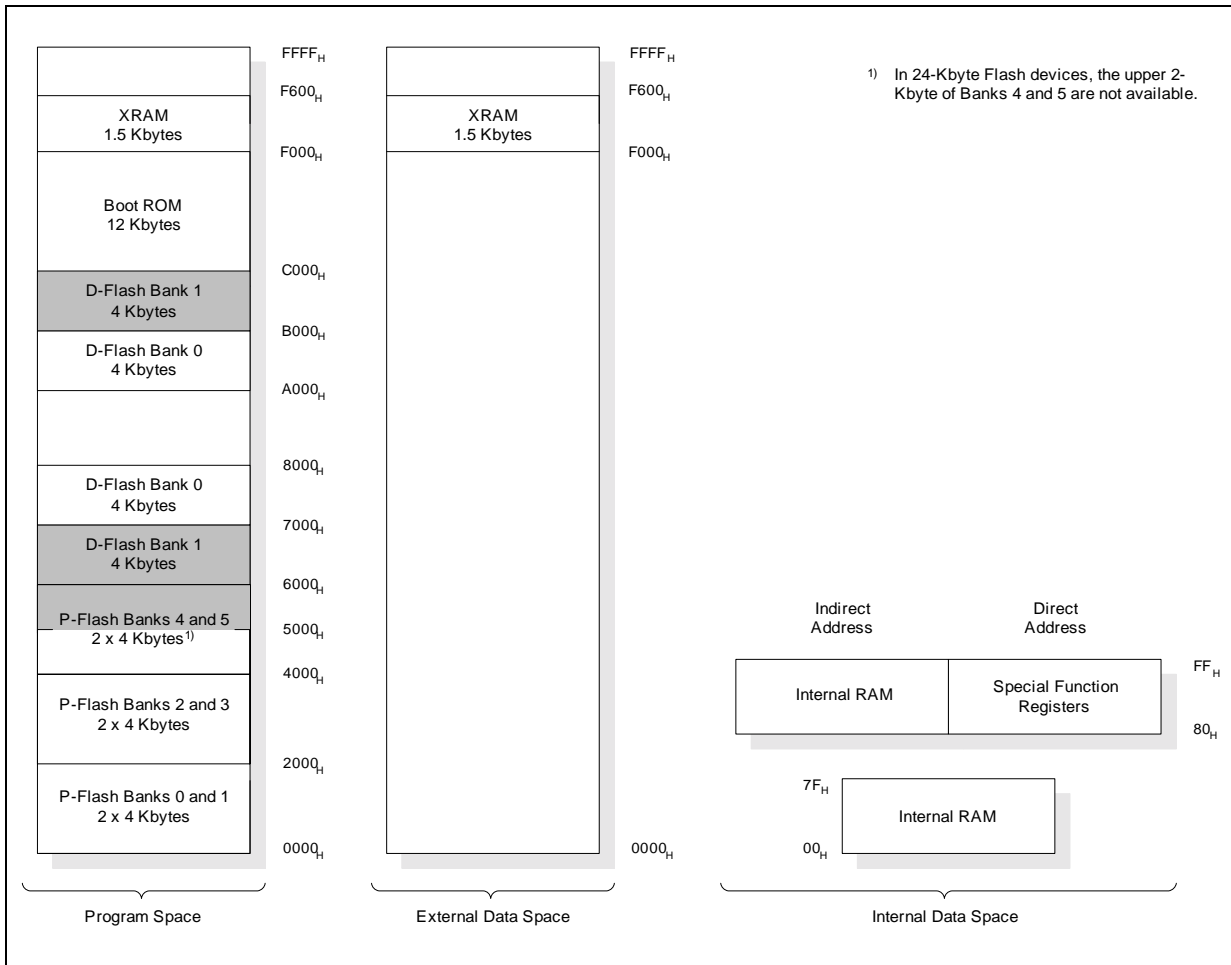

Figure 7 Memory Map of XC886/888 Flash Device
**Figure 7** illustrates the memory address spaces of the 32-Kbyte Flash devices. For the 24-Kbyte Flash devices, the shaded banks are not available.